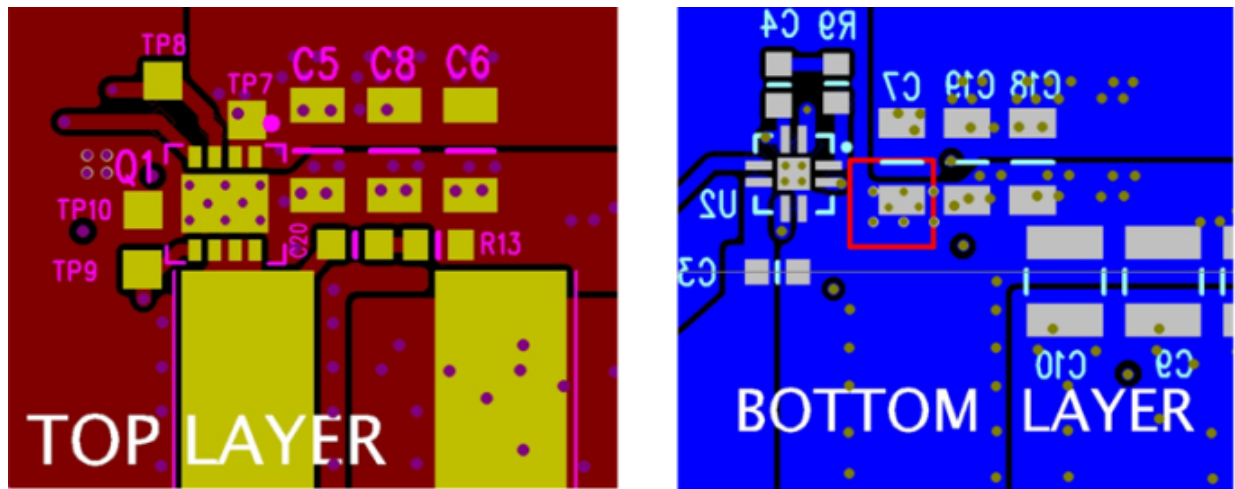

Figure 34. Recommended PCB Layout (Top Down)
- The placement of the input capacitors relative to the Power Block's VIN and PGND pins should have the highest priority during the component placement routine. It is critical to minimize these node lengths. As such, ceramic input capacitors need to be placed as close as possible to the VIN and PGND pins (see Figure 34). The example in Figure 34 uses 6 × 10 μF ceramic capacitors (TDK part number C3216X5R1C106KT or equivalent). Notice there are ceramic capacitors on both sides of the board with an appropriate amount of vias interconnecting both layers. In terms of priority of placement next to the Power Block, C5, C7, C19, and C8 should follow in order.
- In the event the switch node waveform exhibits ringing that reaches undesirable levels, the use of a Boost Resistor or RC snubber can be an effective way to reduce the peak ring level. The recommended Boost Resistor value will range between 1 Ω to 4.7 Ω depending on the output characteristics of Driver IC used in conjunction with the Power Block. The RC snubber values can range from 0.5 Ω to 2.2 Ω for the R and 330 pF to 2200 pF for the C. Refer to TI App Note SLUP100 for more details on how to properly tune the RC snubber values. The RC snubber should be placed as close as possible to the Vsw node and PGND see Figure 34 (1)
- Use the smallest drill size allowed in your design. The example in Figure 34 uses vias with a 10 mil drill hole and a 16 mil capture pad.